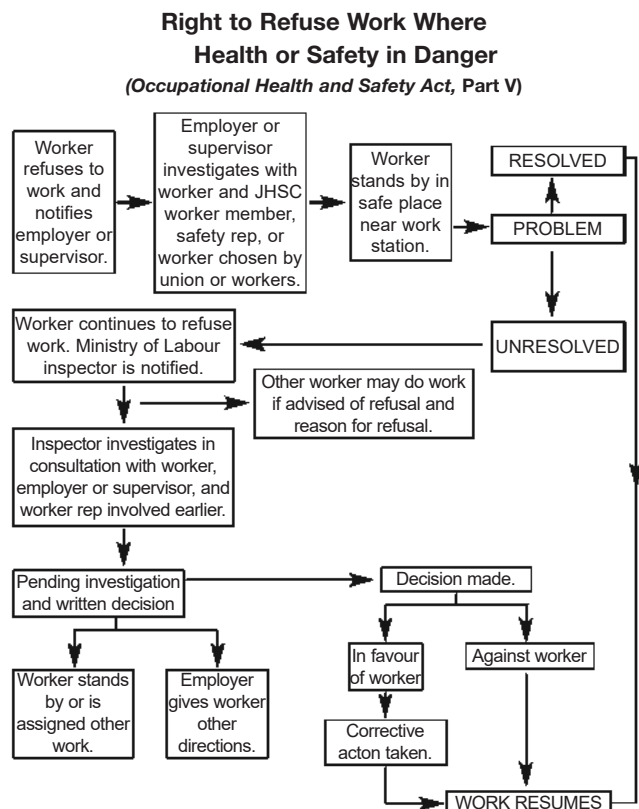

Figure 1
- procedures for refusal to work where health and safety are in danger (Figure 1).